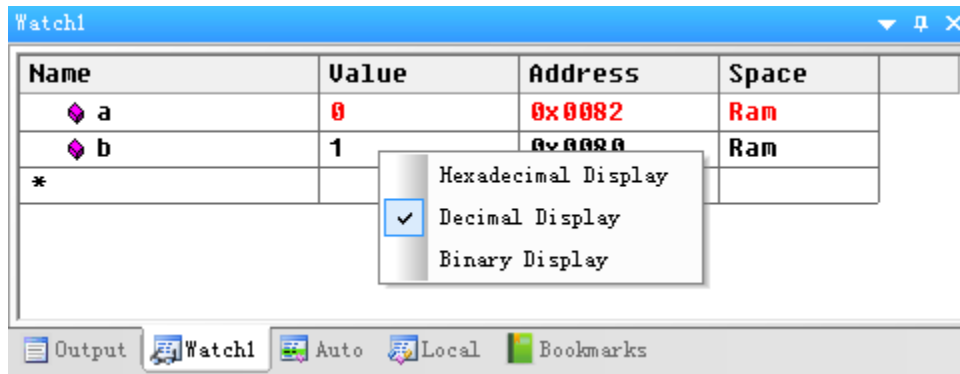

Fig 6-7
- Address is displayed in hexadecimal format, and data is displayed in decimal, hexadecimal or binary format as shown in Fig 6-7. The symbol and their corresponding data will be saved by the HT-IDE3000 and displayed the next time the Watch window is opened. The symbols can be deleted from Watch window by pressing the delete key. Note that the Watch window is dockable.